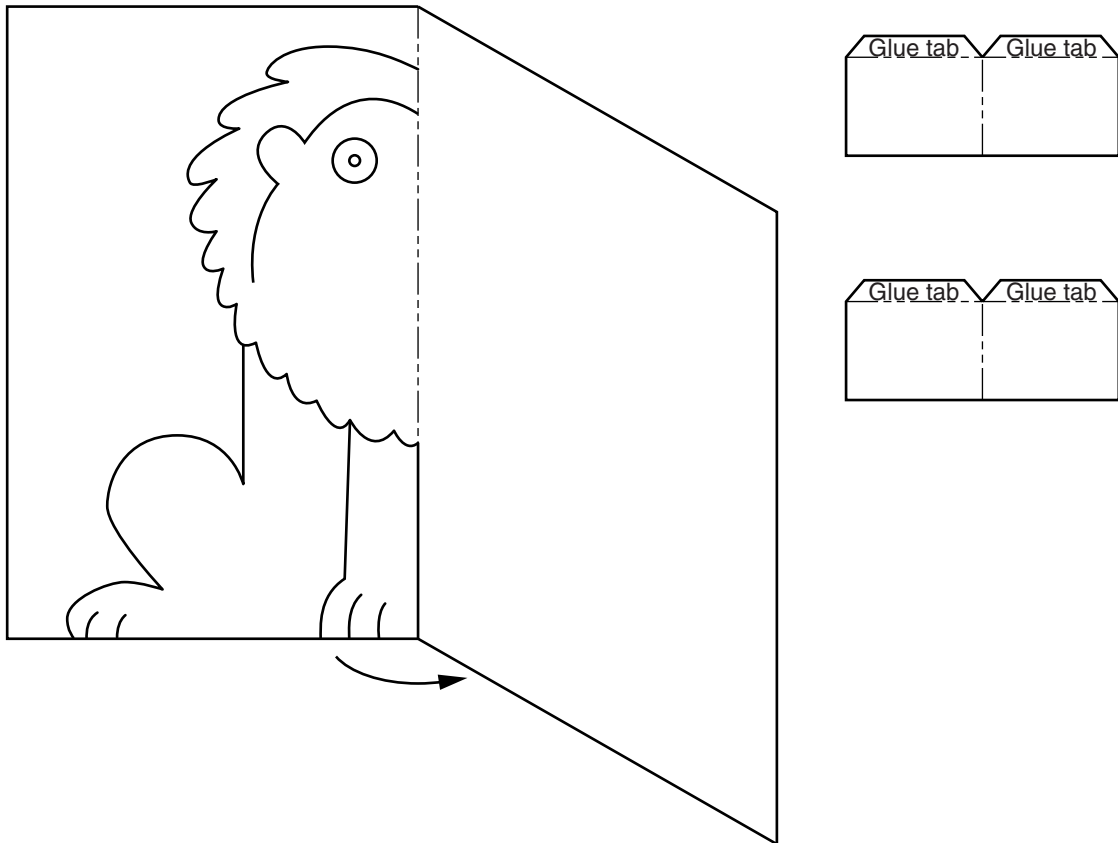

Fig. 3
- 3 Fig. 3 shows the three incomplete parts required to make a pop-up card with a V-fold. The two smaller pieces of card are glued onto the head of the lion to form a mouth. When the card is opened the mouth of the lion closes. The pop-up card will be made in a school workshop.